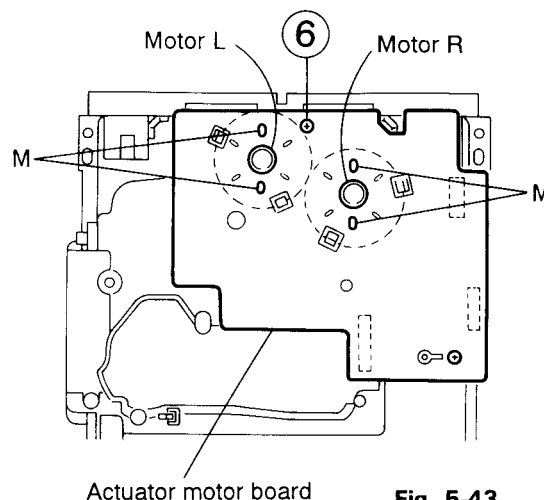

Fig. 5-43
(See Figs. 5-43 and 5-44)
1. Absorb the four soldered positions (N) of the right and left motors with a soldering absorber (See Fig. 5-43).
3. Remove the one screw (11) retaining the bracket (See Fig. 5-43).